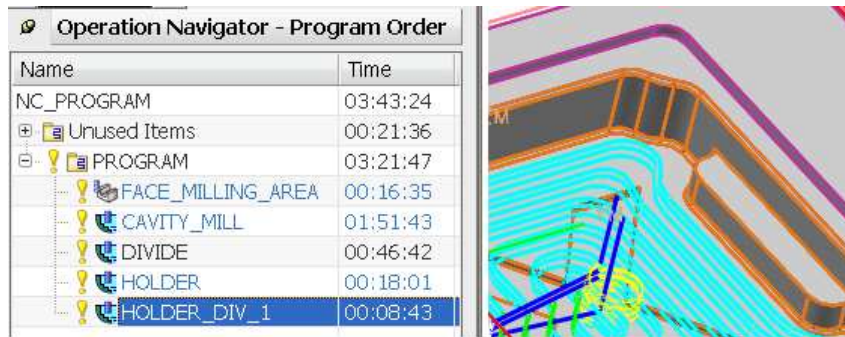

Figure 8.11. The tool path divided according to the holder interference
43. Under the **HOLDER** operation, the next one with **_DIV** index will appear — as in figure 8.11.